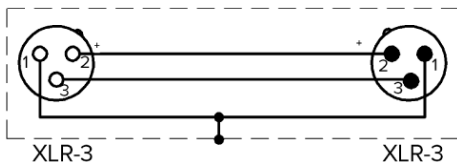

Fig. 3
4. To connect the power supply unit PSU-103-01 to the mixing console, use any XLR-3 microphone cable (Fig. 3).